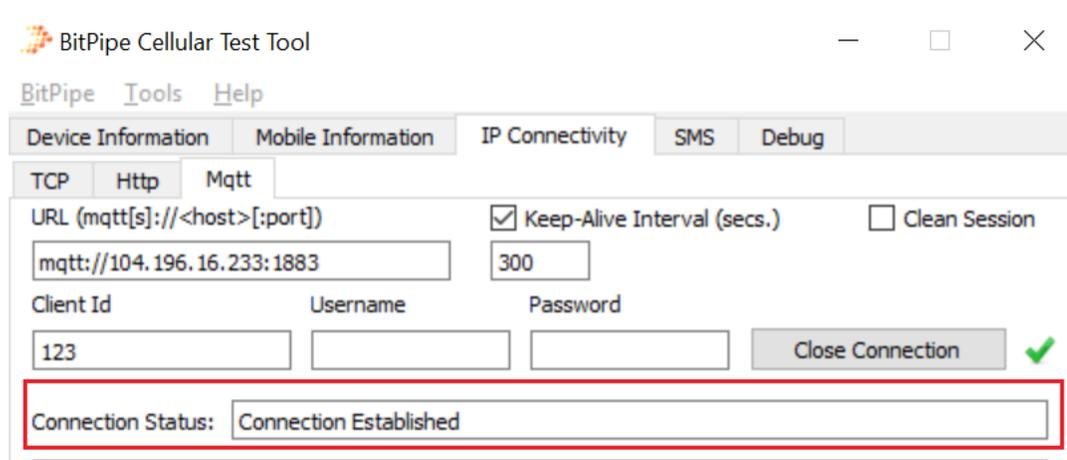

Figure 22 MQTT connection example
1. Select the “IP Connectivity” tab and then, select the “Mqtt” tab (see Figure 22).
7. Once the connection is successful, the “Connection Status” text box will display “Connection Established” as shown in Figure 22.